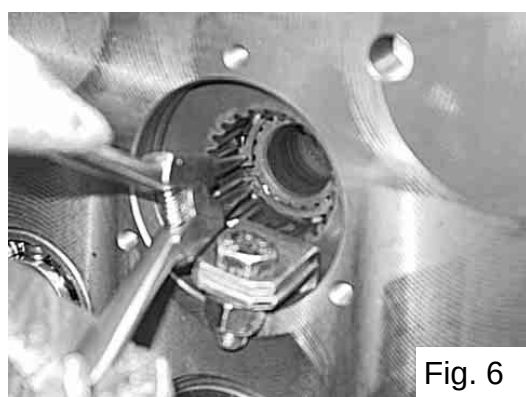

Fig. 6
- loosen the lock nuts and turn the nuts **C** (fig. 6) to obtain the prescribed distance;
Before shaft **M** of (fig. 2) is mounted, fit on the circlip as illustrated in (fig. 6) using a pair of circlip pliers and the simple tool shown in (fig. 6) which allows shaft **N** and gear 6 of (fig. 2) to be kept in position.